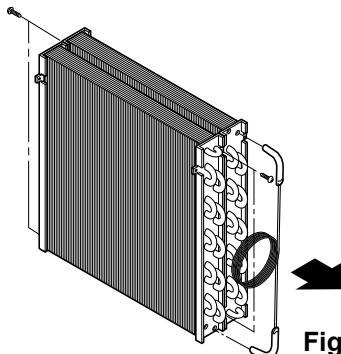

Figure 28
7. Unbraz the capillary tube at the connections of the condenser and evaporator. (See Figure 28)
8. Remove 4 screws between the condenser and evaporator. (See Figure 28)